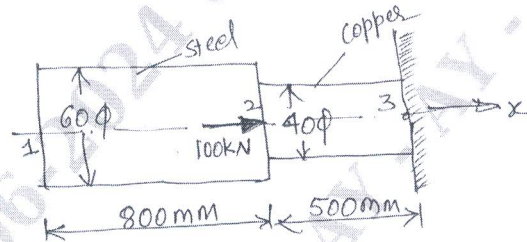

Fig. Q5 (a)
- 5 a. For the axially loaded bar shown in Fig.Q5 (a), determine (i) Nodal displacement, (ii) Element stresses (iii) Support reactions. Take $E_{\text{steel}} = 200 \text{ GPa}$; $E_{\text{cu}} = 100 \text{ GPa}$ (10 Marks)